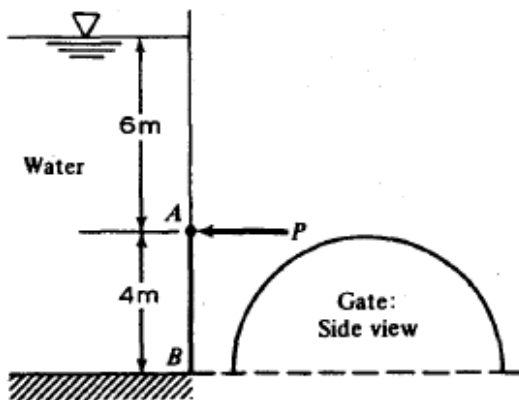

Fig. 3-25(a)
- Gate AB in Fig. 3-25 is semicircular, hinged at B . What horizontal force P is required at A for equilibrium?